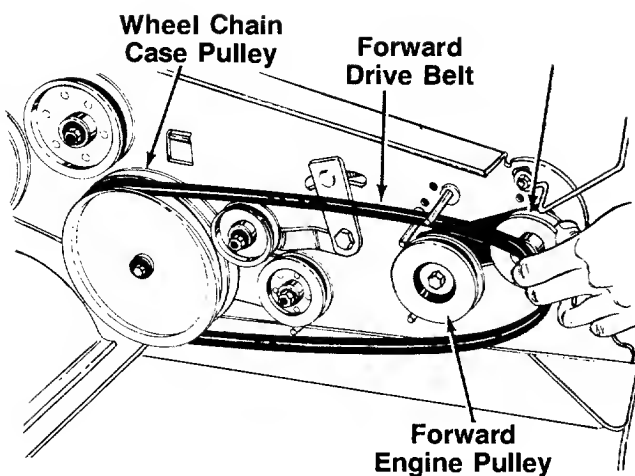

FIGURE 28.
- C. Lift belt off the forward engine pulley. See figure 28.